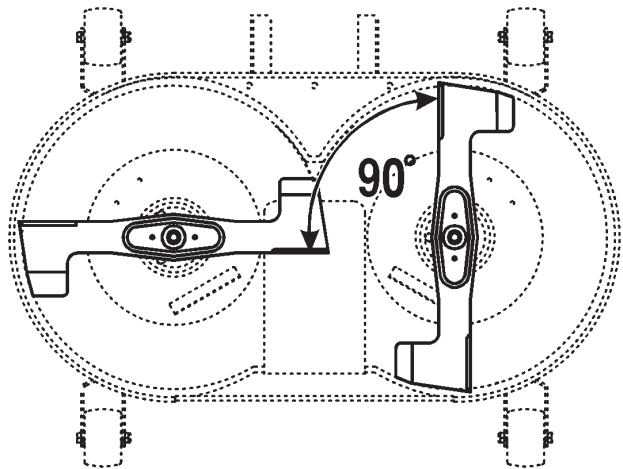

Figure 41
2. Position the blades 90 degrees to each other (Fig. 41).